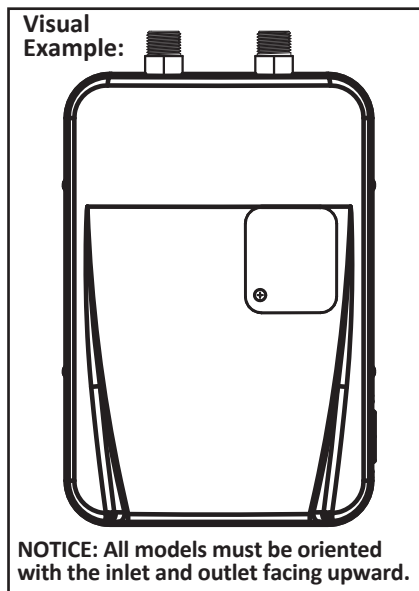

Figure 3 - Point of-Use Orientation
**NOTICE:** All models must be oriented with the inlet and outlet facing upward. See Figure 3.